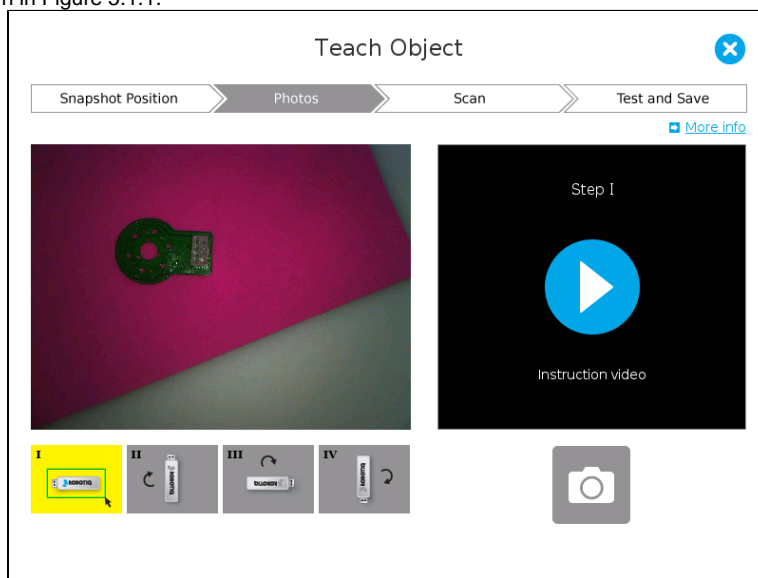

Figure 5.1.1: Placing the background and object for teaching.
- When placing the background and the object in the camera's field of view for the **Photos** step, make sure you leave a uniform margin around the object as shown in Figure 5.1.1.